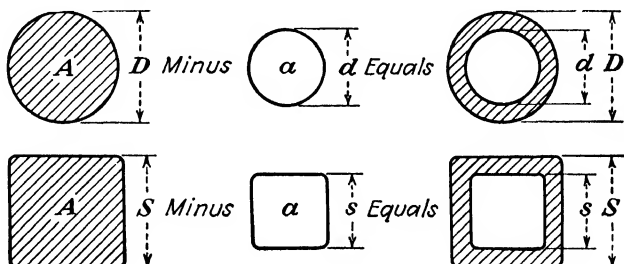

Fig. 230.
**B. The Cross-sectional Area of Tubing.** Figure 230 shows that the cross-sectional area of any tube may be obtained by taking the area  $A$  of a solid bar and subtracting the area  $a$  of a removed center portion.